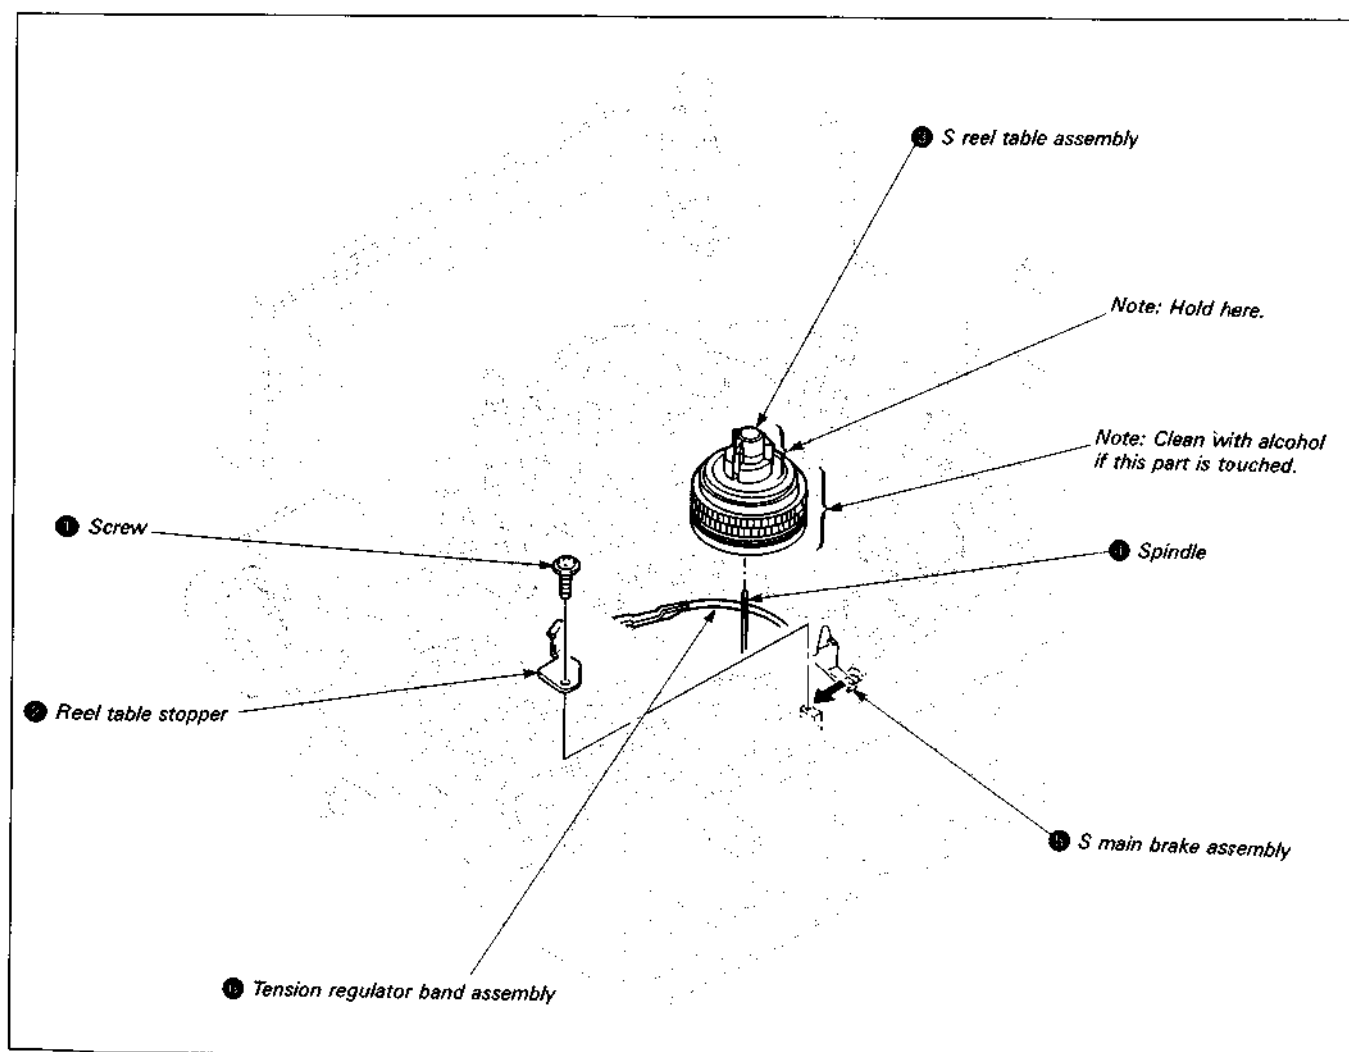

Fig. 7-6.
7-3-1. S Reel Table Assembly (See Fig. 7-6.)
- 1) Remove the S reel table assembly according to item 7-3-1, 1. Removal. (See Fig. 7-6.)
- 2) Remove the band arm hook ①.
- 3) Remove hook ② and the tension regulator band assembly ③.
- 1) Mount the tension regulator band assembly ③. (Do not touch the band or change its shape.)
- 2) Fit on the band arm hook ①.
- 3) Mount the S reel table assembly according to 7-3-1, 2. Mounting. (See Fig. 7-6.)